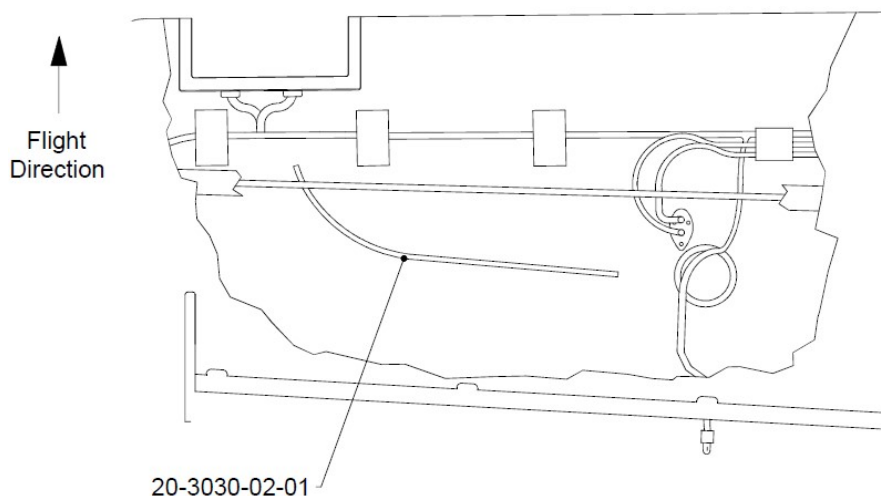

Figure 38: Location of Pitot Wire Conduit in Wing
- 13.1.10** Place the Pitot Wire Conduit (p/n: 20-3030-02-01) in the wing such that the straight end of the conduit rests on the lower wing skin near the Access Hole and the curved end of the conduit extends through the newly drilled hole, as shown in Figure 38.